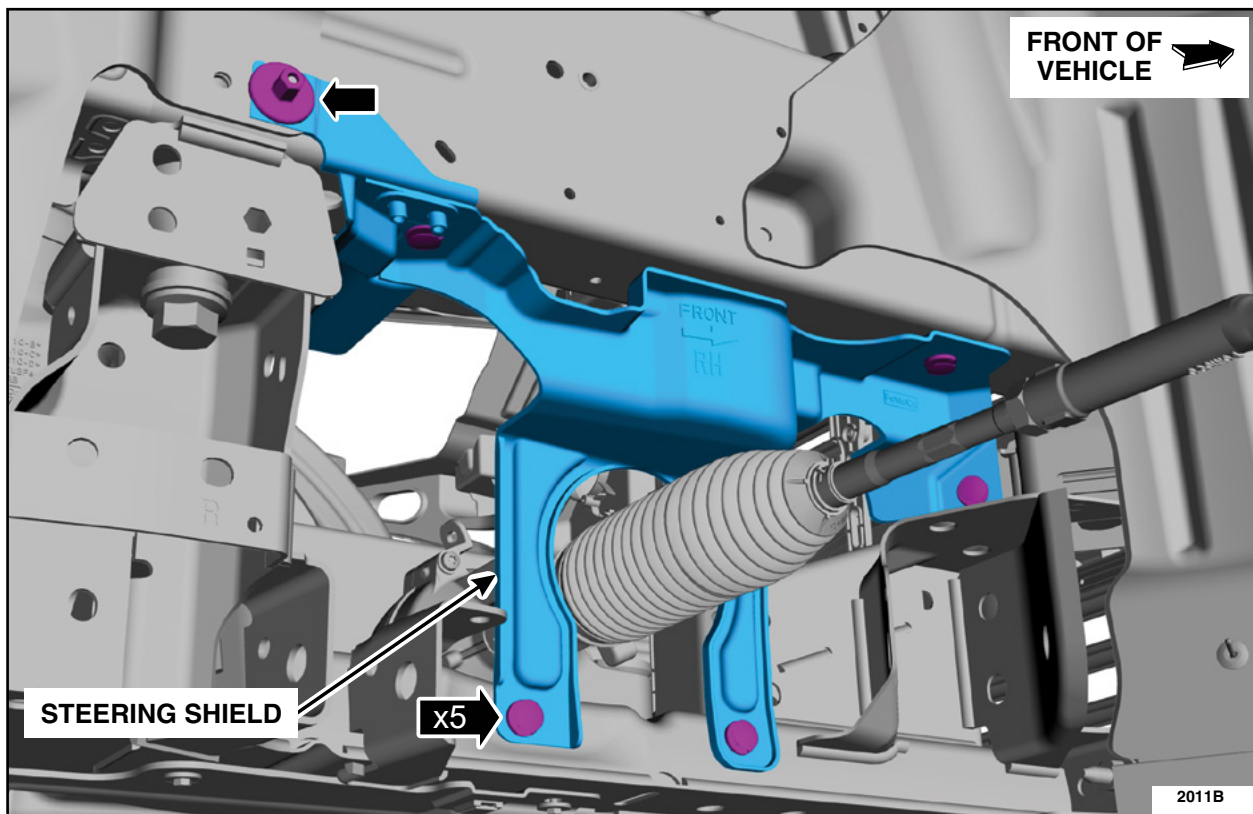

FIGURE 2
1. Remove the Right Hand (RH) tire. Please follow the Workshop Manual (WSM) procedures in Section 204-04.
2. Remove the RH steering shield retainers and the steering shield. See Figure 2.